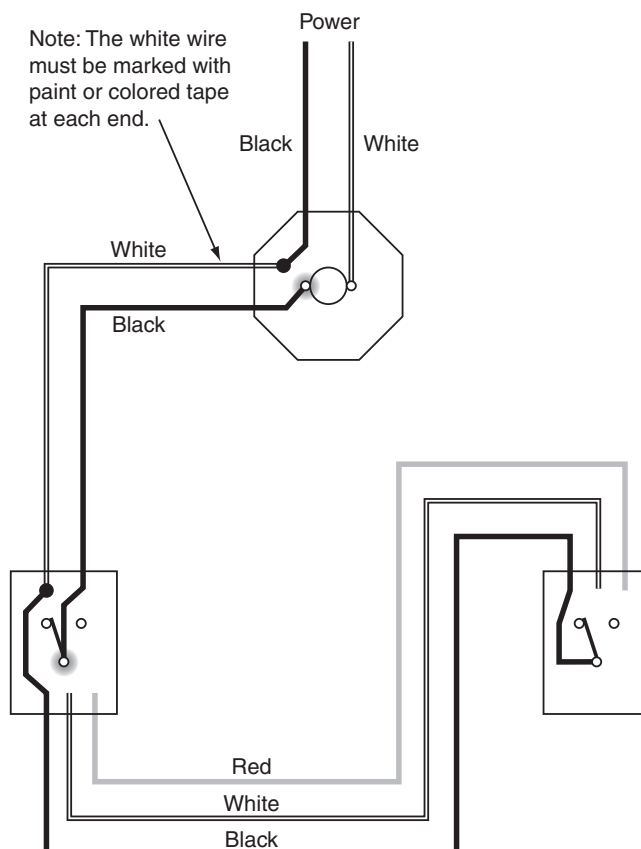

Figure 8-21 The other side of the light is connected to the common terminal of the other 3-way switch.
3. *Connect the other side of the light to the common terminal of the other 3-way switch.* The black conductor of the switch leg that runs from the light box to the switch will be used (Figure 8-21).